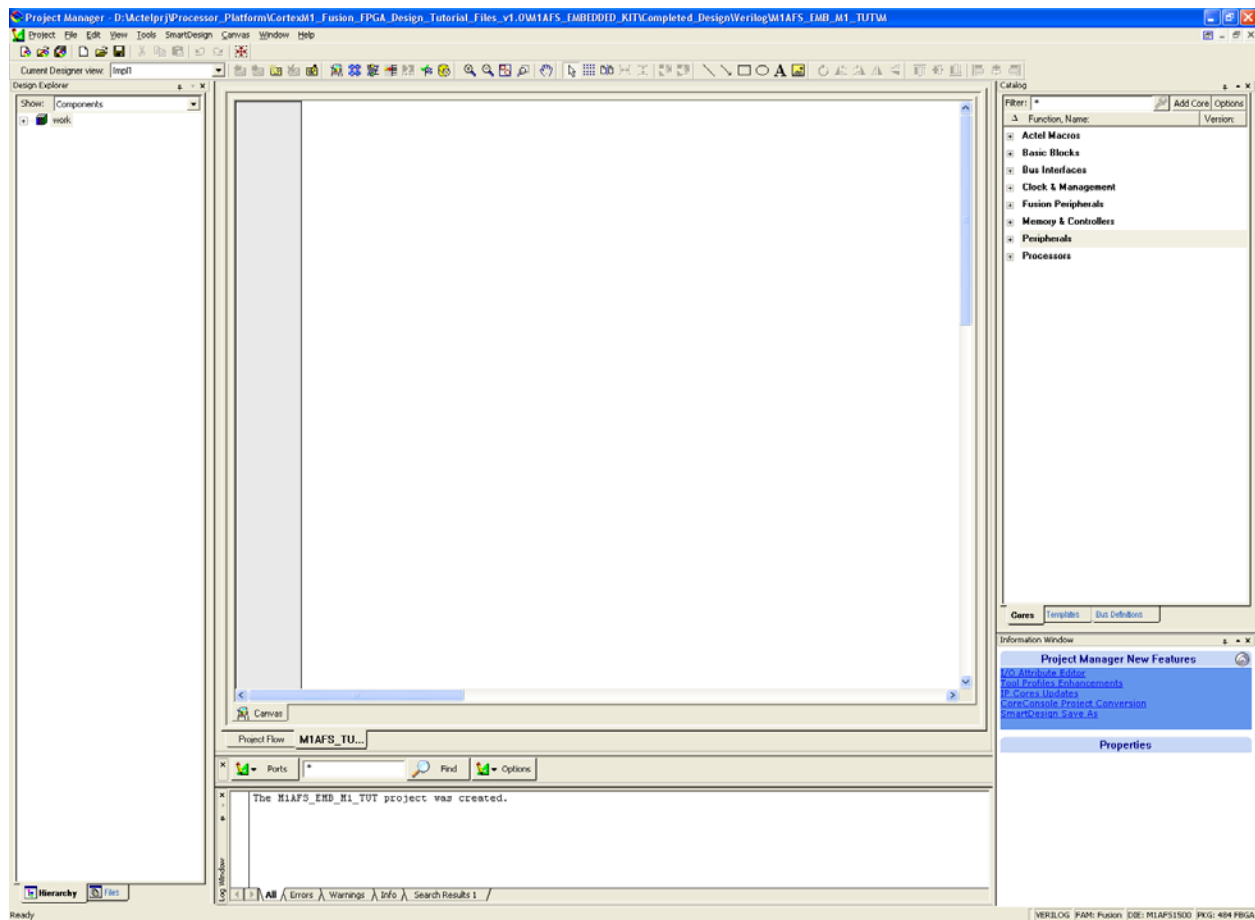

Figure 3-5 • SmartDesign Canvas Window
- Click **OK**. A blank canvas opens in SmartDesign, which looks like Figure 3-5. Notice the new M1AFS_TUT_TOP tab (next to the Project Flow tab) which contains a Canvas tab. This is your new SmartDesign canvas window.